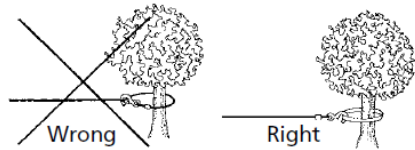

Figure 4
9. NEVER HOOK THE WIRE ROPE BACK ONTO ITSELF because you could damage the wire rope. Use a nylon sling Figure 4 .